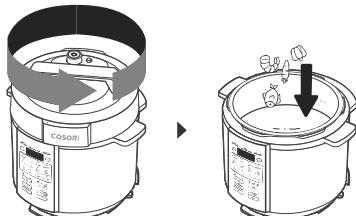

Figure 4.1
1. Twist the lid anticlockwise and lift to remove. Add the ingredients to the inner pot. **[Figure 4.1]**